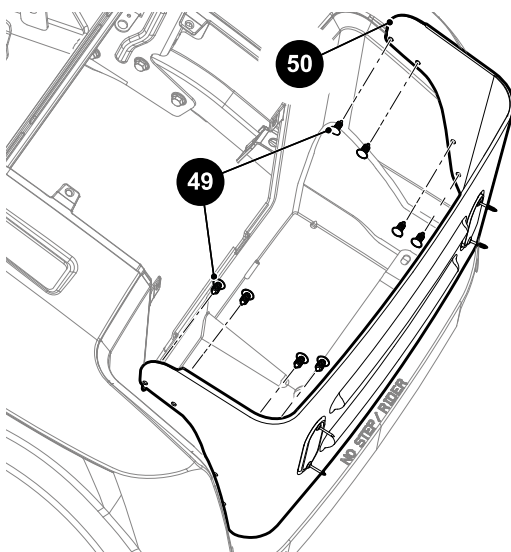

Figure 21 Bagwell Closeout
Remove the ratchet rivets (49). Remove the bagwell closeout (50) (Figure 21).